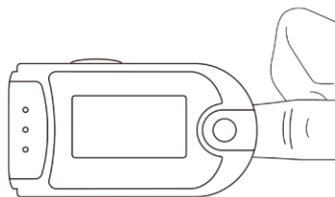

Figure 4: Put Finger in Position
- 5.2 Open the clip as shown in Figure 4.
1. The finger should be placed properly (see the attached illustration of this manual, Figure 4), or else it may cause inaccurate measurement.